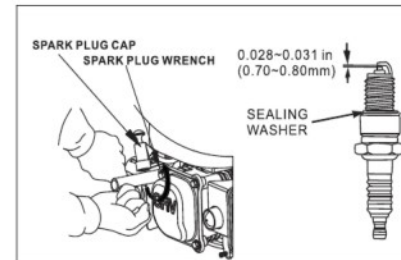

Fig. 11
4. Measure the electrode gap with a suitable gauge. The correct gap is 0.028 - 0.031 in (0.70 - 0.80 mm). If adjustment is needed, correct the gap by carefully bending the side electrode. (See Fig. 11)